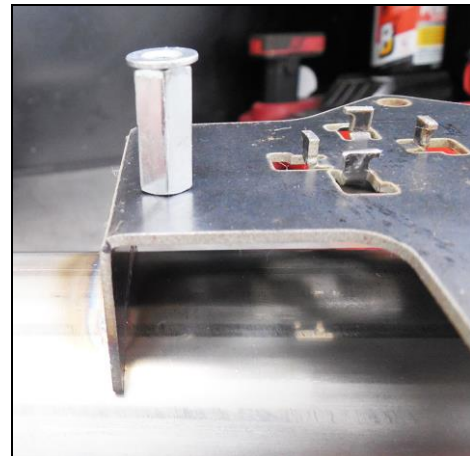

Figure 3
5. Place a washer on to the top of the coupling nut installed on the mounting plate (**Figure 3**).